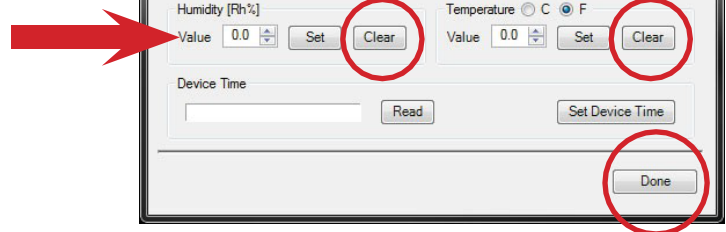
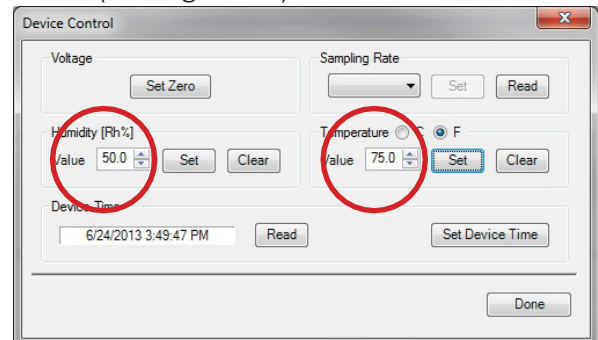

Figure 15: Clearing Humidity and Temperature Bias adjustments
Figure 16: Adjusting Temperature and Humidity Bias
In Figure 15, the zero Label and Line will be red. To change colors, press the down arrow(s) to open the color selection drop down menu(s). Choose from several colors (Figure 16) for customizing lines and labels.
2. Select **Device Control** (see Figure 15)
If an acceptable temperature and humidity instrument is available, the PGA-712's sensor can be operationally adjusted to approximate the reference as follows (See Figure 16):